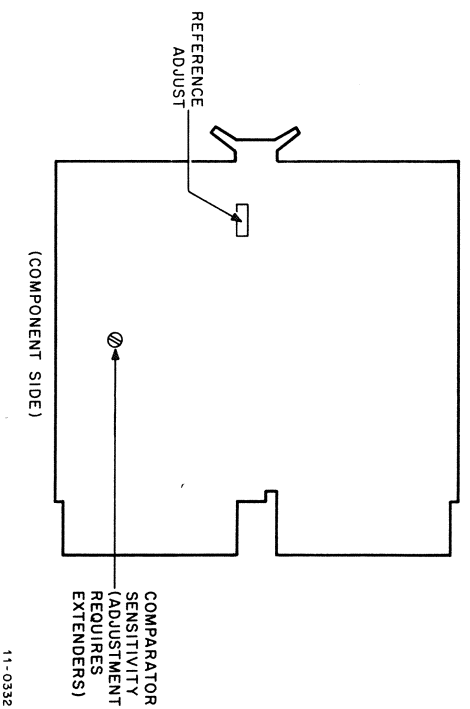

Figure 2-2 A812 A/D Converter
- 3 Adjust comparator sensitivity potentiometer (see Figure 2-2) for 000 000g to 000 001 g on console DATA indicators. (Adjust for 001 777g to 001 776g if AH04 is installed.)